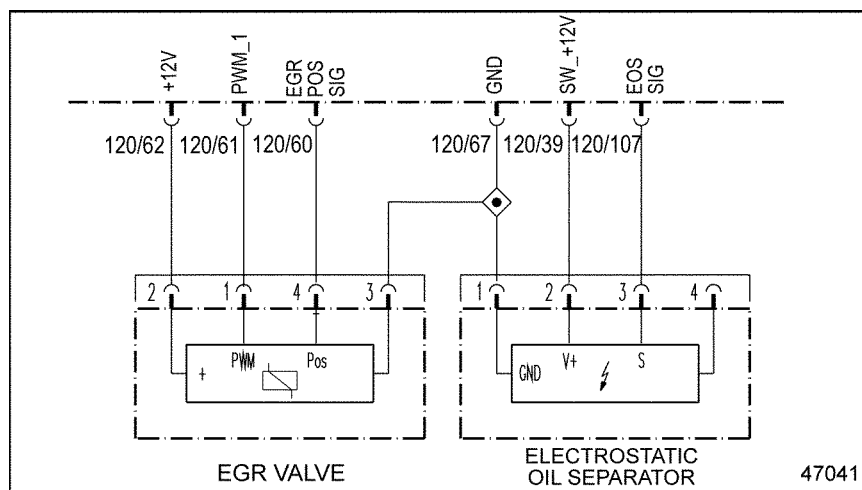

Figure 20-2 Electrostatic Oil Separator Wiring
- [a] If the resistance is greater than 150 Ω , replace the Electrostatic Oil Separator. See Figure 20-2. Refer to section 20.2.1.1.